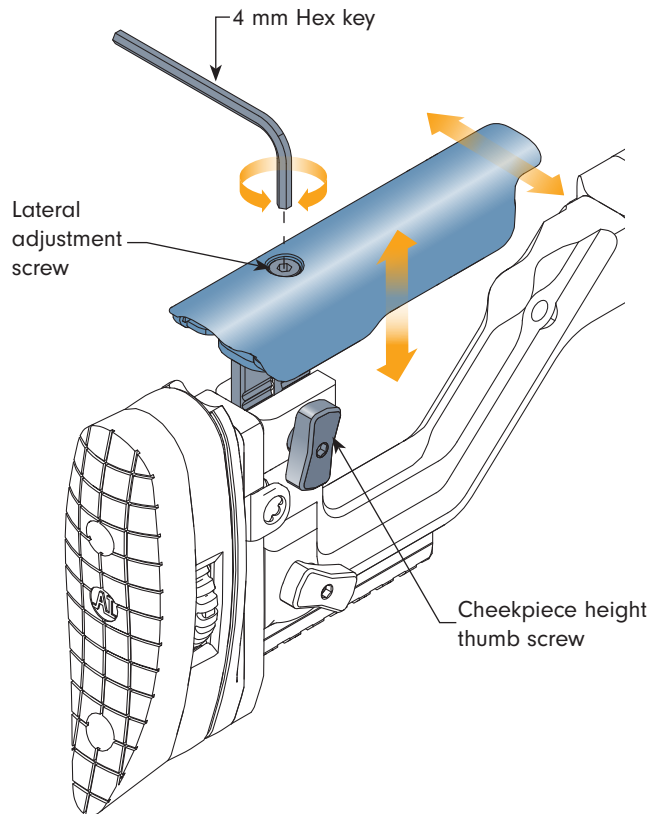

Fig 2-7
- Loosen the upper thumb screw (see Fig 2-7).